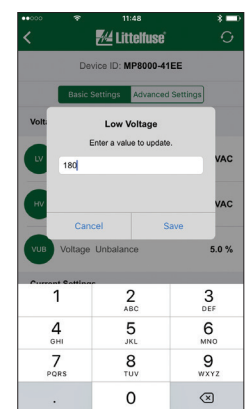

Figure 6
- e. A popup box will appear in which the numerical setting can be entered. Enter the setting and press "Save". (See Figure 6)